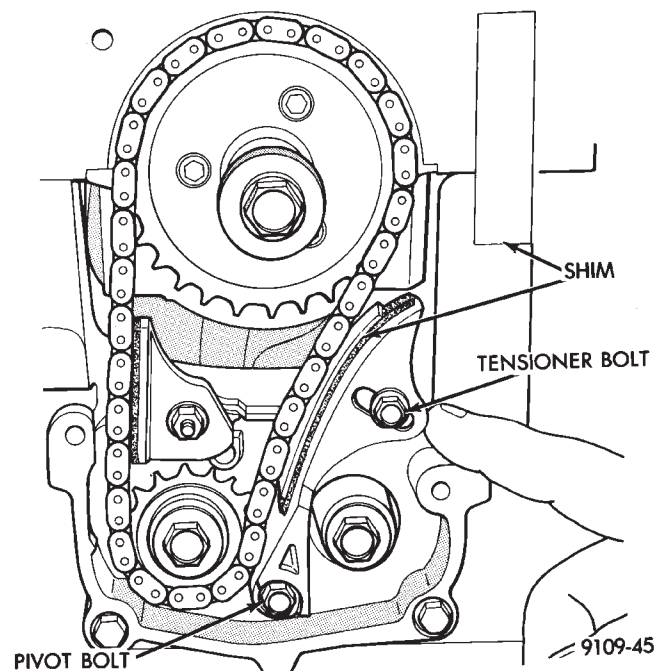

Fig. 22 Chain Tension Adjustment
(1) Install chain tensioner loosely assembled.
(2) Position guide on double ended stud making sure tab on the guide fits into slot on the gear cover. Install and tighten nut/washer assembly to 12 N•m (105 in. lbs.).
(3) Place a shim 1mm (.039 inch) thick x 70mm (2.75 inch) long or between tensioner and chain. Push tensioner and shim up against the chain. **Apply firm pressure (5.5 to 6.6 lbs.) directly behind the adjustment slot to take up all slack** (chain must have shoe radius contact as shown in Fig. 22).
(4) With the load applied, tighten top tensioner bolt first, then bottom pivot bolt. Tighten bolts to 12 N•m (105 in. lbs.), Remove shim.
(5) Install carrier covers and tighten screws to 12 N•m (105 in. lbs.).